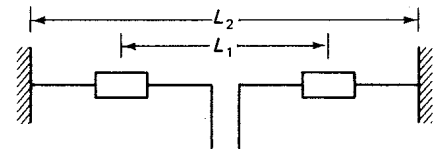

Fig. 6-29
- 6.16** A dipole antenna using antenna traps is desired which is to be used to transmit a 140-MHz signal and a 90-MHz signal. See Fig. 6-29. Design the antenna. Assume a velocity factor of 0.90.